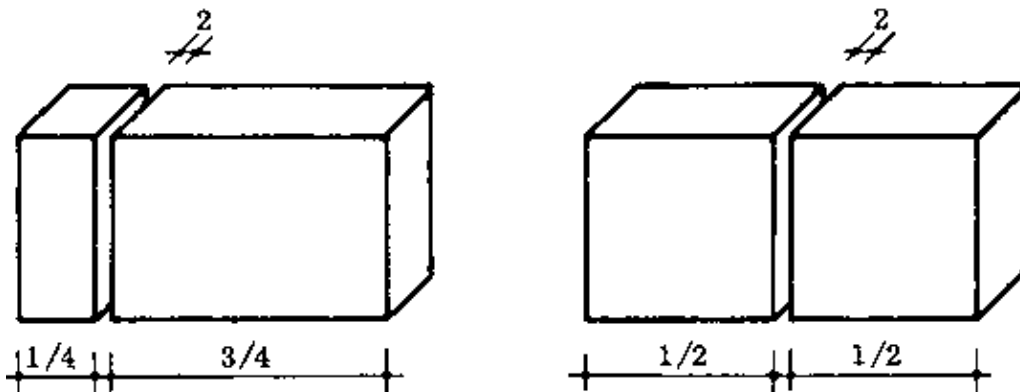

Fig. 5 1/4 – 1/2 – 3/4 BLOCKS
– 3/4 – 1/2 – 1/4 – BLOCKS: These are parts of blocks obtained by cutting a block through either the centre line or the quarter line, less half the thickness of the joint (Fig. 5). The cut is made along the width, not along the length. A special block gauge may be used for marking off the different sizes.